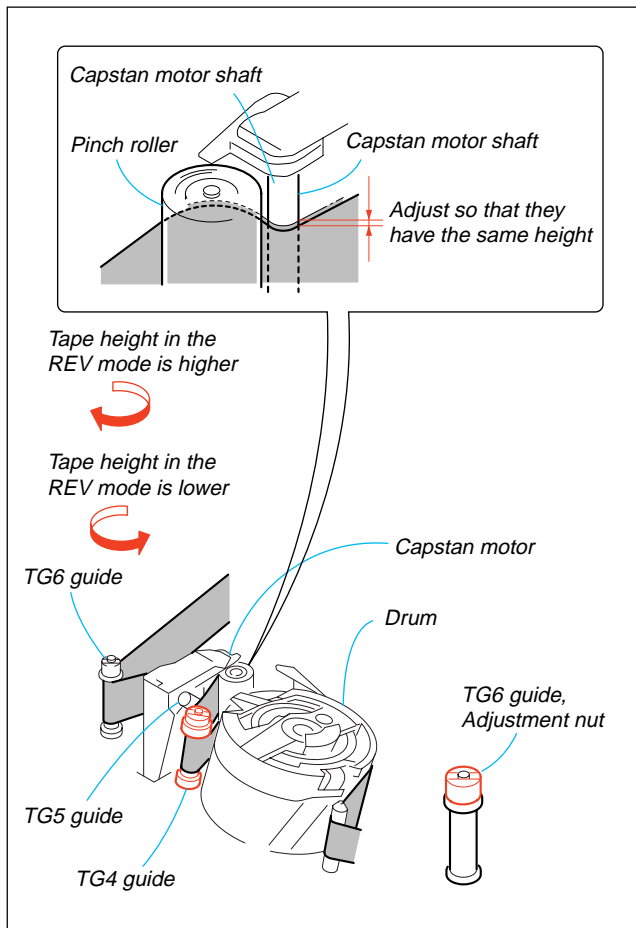

Fig. 6-2-14
- 2) Press the FF button to enter the CUE mode and measure the tape height after 5 seconds have elapsed. (Fig. 6-2-14)